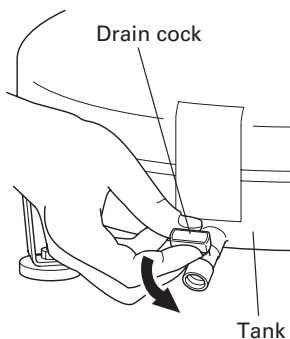

Fig. 6
- (2) Unplug the plug from power source.
- (3) Open the drain cock located at the lower part of the tank (Fig. 6).
Drain tank daily or after 4 hours of use. Open drain fitting and tilt compressor to empty accumulated water (Refer to Fig. 6).